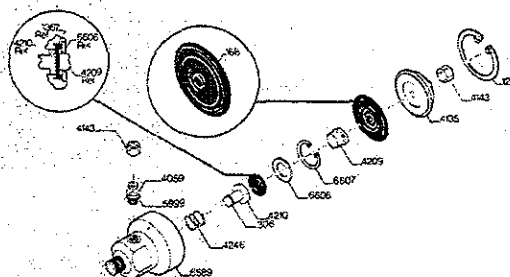

FIGURE 29
- Reinstall components into CARTRIDGE (see Fig. 29 for exploded view of CARTRIDGE assembly).